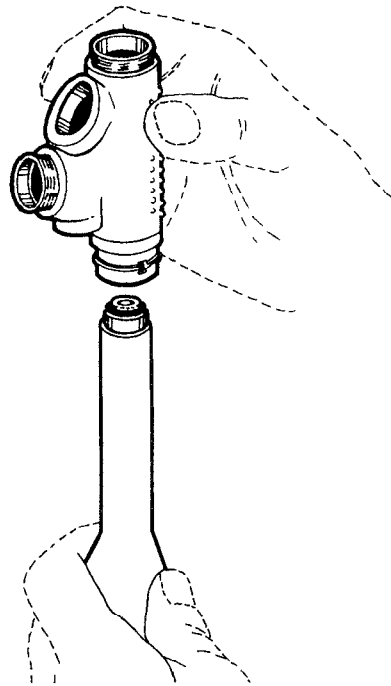

FIG. 5
4. Introduce special tool into inflator body (46) up to bushing (49) coupling with the exhaust button stem (119). (Fig. 5)